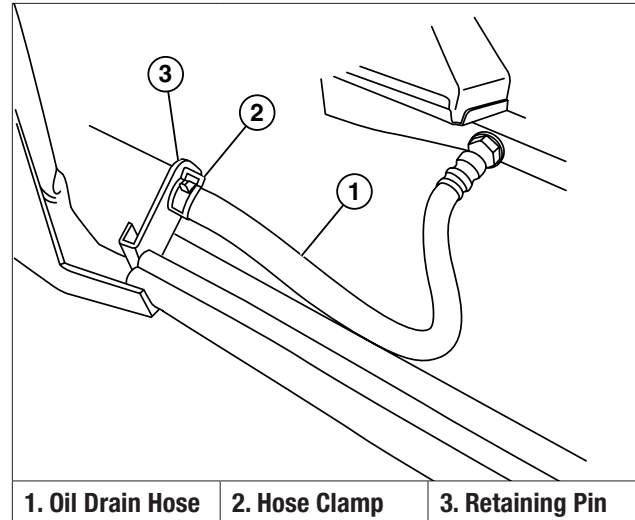

Figure 13
- Loosen hose clamp on oil drain hose and slide drain hose off retaining pin. (Figure 13)